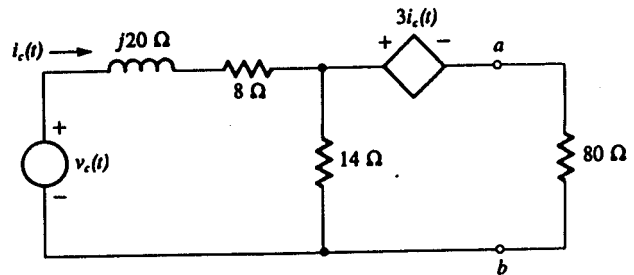

Figure 2.
- Find a Thevenin Equivalent Circuit from Figure 2 across terminals a and b with 80 Ohms load. (10%)